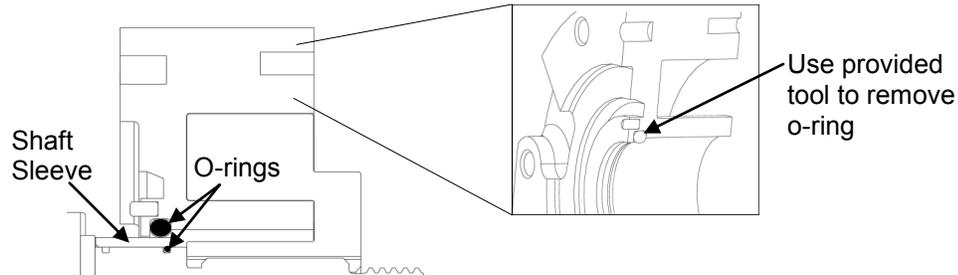

**Figure 27: Removing Pump Body**
5) Remove the two body hold down bolts using the appropriate driver. Then pull the pump body off by sliding it along the studs (Figure 27). If the body is stuck, use a soft mallet to tap the body. Inspect the body for excessive wear, clean, and continue on to seal maintenance. It is important to reassemble the pump body back onto the original gear case because the shafts are shimmed for that particular body.